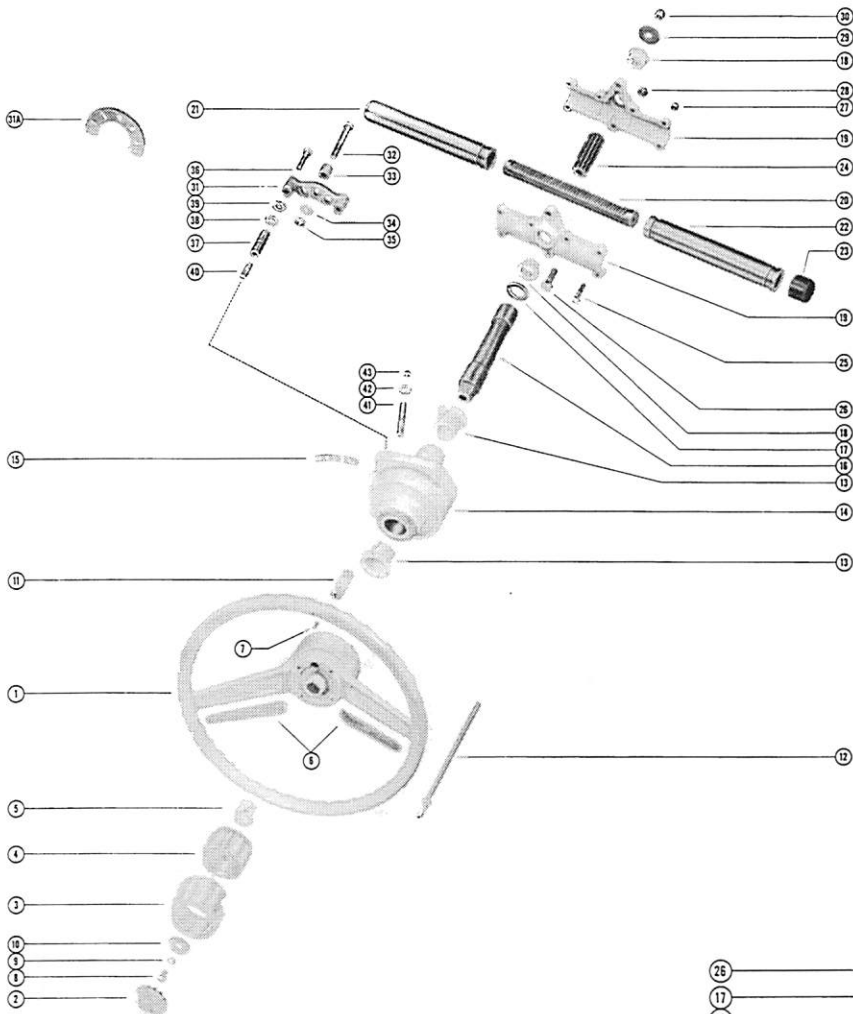

**Figure 2. Thru-the-Dash Mounting**
1. Slide gear rack and pinion assembly snugly into splined end of steering wheel shaft (21). (Figure 2)